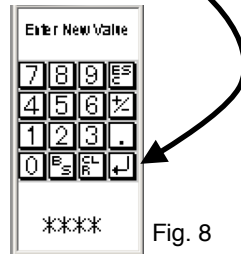

Fig. 8
6. A keypad will then display for entering the new preset (Fig. 8). Enter the desired value and touch the ENTER (bent arrow) key to set the value. Press ESC to cancel and go back to the preset list.